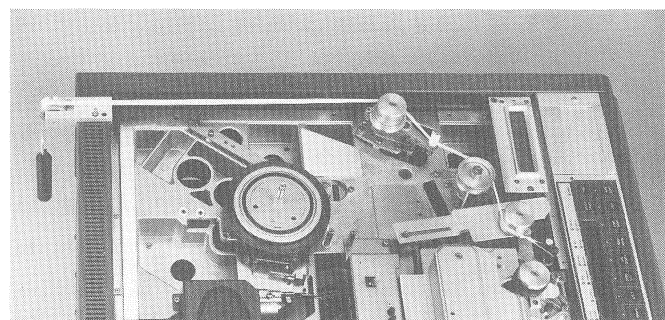

Fig. 3.3.10
- Insert adjusting device (part No. 10.010.001.31) on the tape transport according to Fig. 3.3.10 (it is not necessary to remove the tape transport covers for this check).
- Install adjusting device on the tape transport (refer to Fig. 3.3.10).